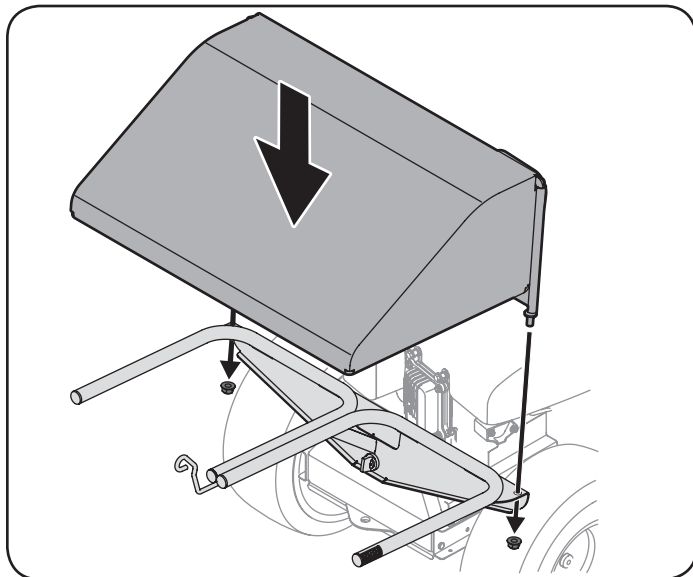

Figure 6
5. Remove the protective caps on the bagger cover hood mounting threads and attach the bagger hood over the grass-bag mounting assembly as shown in Figure 6. Align the tabs on the hood into the slots on the grass-bag mounting assembly. Secure the bagger hood using two flange lock nuts (712-04150) included in the same hardware pack.